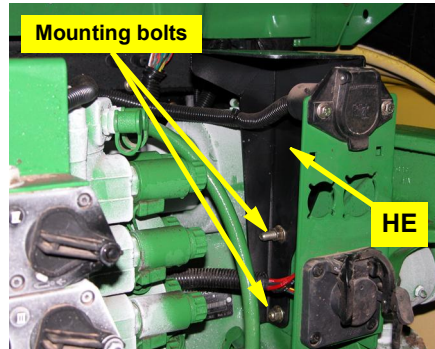

Figure 2a: Installed steering block bracket
- a. Locate the two bolts securing the trailer-wiring bracket to the rear casting of the tractor. Using these two bolts, install the hydraulic mounting bracket **HE** onto the tractor casting (Figure 2a).